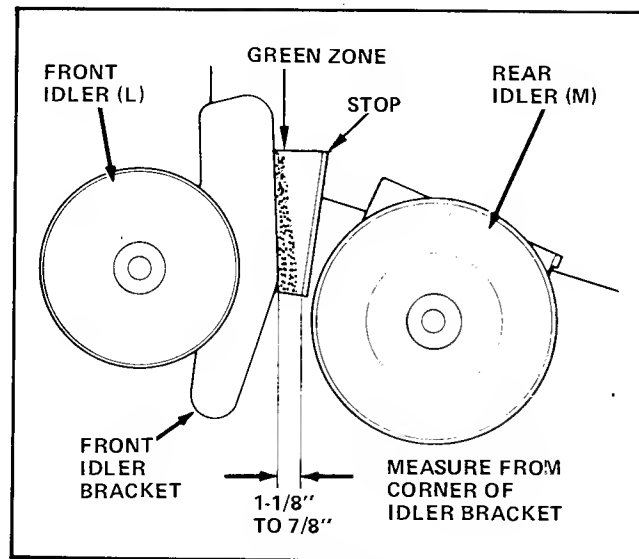

FIGURE 37A
14. Notice that the rear idler pulley (M) is mounted in a slot. The pulley can be moved forward or back to increase or decrease belt tension. For initial setting proceed as follows. With the pulley tensioning lever pulled fully back and up measure the clearance between the front idler bracket and the stop. See diagram in Figure 37A. The clearance should be approximately 1-1/8" to 7/8" (28 to 22 mm). If not, push the belt tensioning lever down. Change position of the rear idler pulley in the slot. Recheck the measurement with belt tensioning lever pulled back and up.
16. Operate the tractor with mower engaged for about 15 minutes. Then stop the engine, remove the start key, shift into neutral, set the parking brake and disengage the PTO. Recheck the position of the front idler bracket and, if necessary, check the position of the rear idler pulley (M).
- NOTE:** Check the belt adjustment periodically during the mowing season. Readjust rear idler (M) as required to keep front idler bracket operating in the green zone.